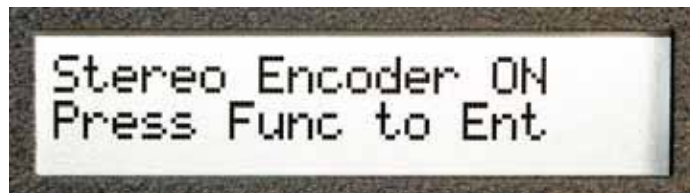

Figure 3-6. Press the RAISE or LOWER key to Change the LCD Display
2. To change the Stereo Encoder setting, press the RAISE or LOWER key, which will result in the alternate setting (see Figure 3-6).